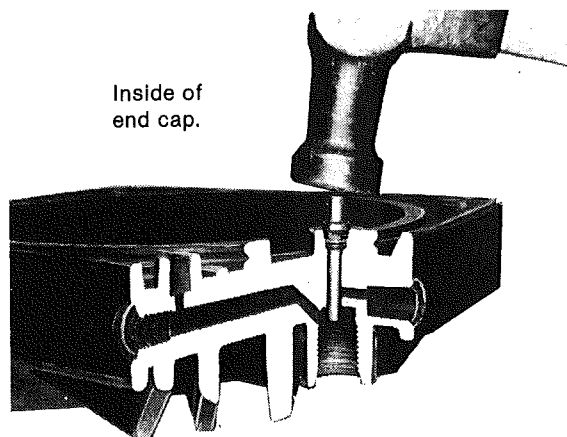

Figure 5.
**Note:** Unless excessive leakage occurs, it is not advisable to replace the o-ring seal for the shank of the stem. This requires disassembly of the air section. If replacement is required, care must be taken in installing the Tru-Arc retainer concentrically as shown in figure 5. Use the 27375 pilot stem valve as seating tool. Place the rubber valve face against the retainer and tap the top of the valve lightly with a light hammer to **evenly** bend the legs of the retainer.